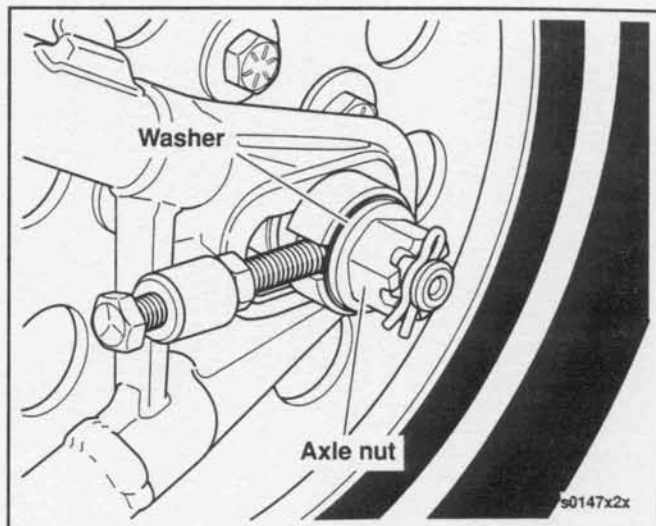

Figure 2-8. Rear Axle
3. See Figure 2-8. Remove the spring clip, axle nut, and washer from left side of axle. Tap axle towards right side and remove. Belt adjuster collars will fall loose when axle is removed.
11. See Figure 2-8. Install new cotter pin or spring clip.